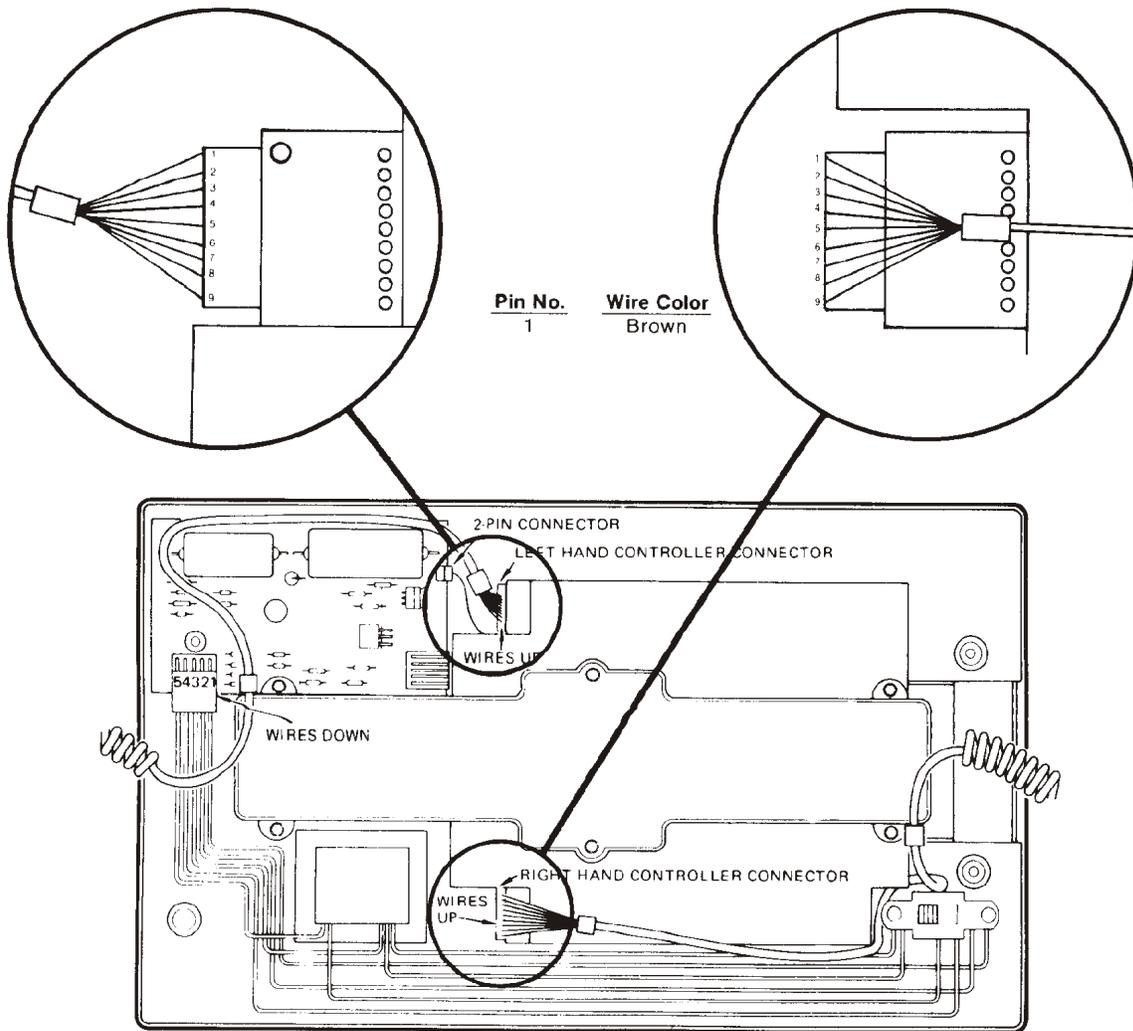

Figure 6
NOTE: When re-assembling Console, replace Hand Controller tray first. Refer to Figure 6 for position of Controller wires.
- (5) Lift Logic Board straight up. Carefully disconnect Hand Controllers (if a problem exists in just one Controller, it is not necessary to remove both of them). When replacing Connectors to Logic Board, the Connector must be inserted according to the illustration in Figure 6, page 11.